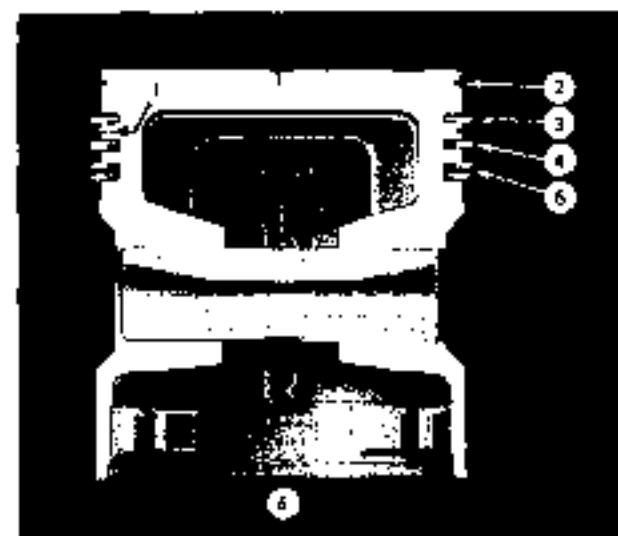

FIG. 378
The piston (1, Fig. 378) of the Commander engine is provided with a groove (1) in the second land to reduce blow-by to a minimum in the higher speed operating range. It is important that the groove be cleared whenever the pistons are removed. To clean the groove, apply coarse grinding compound to a piece of string, then run the string around through the groove until the groove is clean. After clearing the groove thoroughly be sure to remove all grinding compound from the piston.